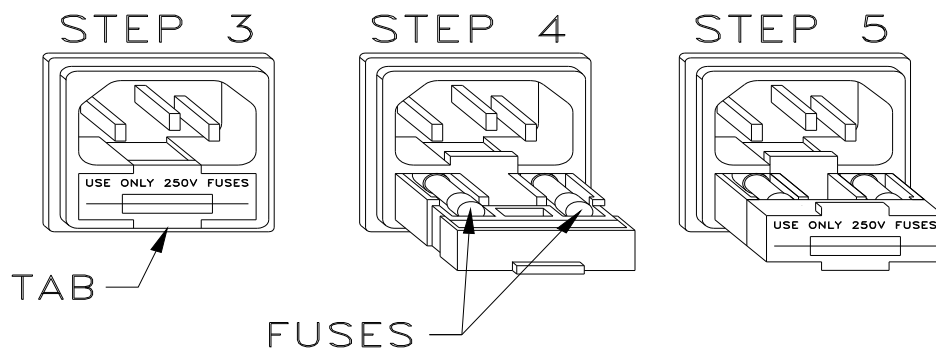

Figure 15-5
3. Use a small screwdriver to pry open the tab of the fuse drawer that is located directly below the power cord connector. The drawer will drop down to expose the ends of the 2 fuses. (Refer to Figure 15-5)